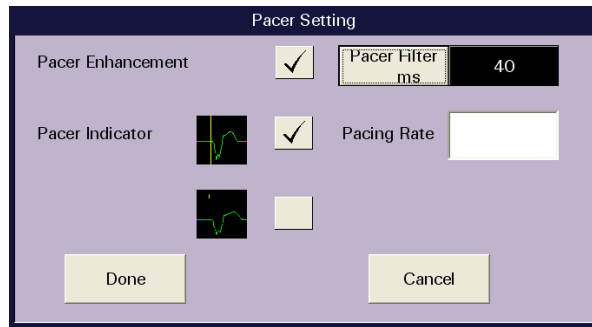
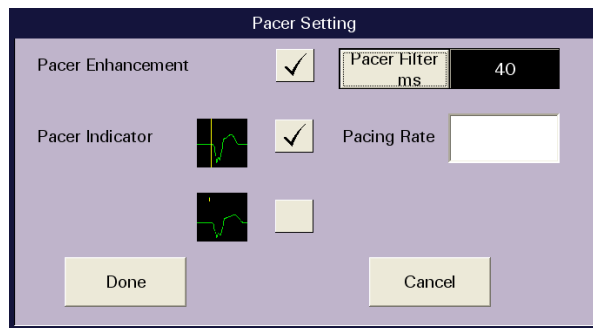

FIGURE 5-8 Pacer Setting Dialog Box
FIGURE 5-9 Pacer Setting Dialog Box (V 12/V 21 and Telepack only)
- **Pacer Enhancement** visually marks pacemaker-induced ECG complexes with a colored vertical spike. It can be enabled or disabled in the **Pacer Setting** dialog box (shown in FIGURE 5-8 and FIGURE 5-9).
- **Pacer Filtering** adjusts the time period during which pacemaker-induced ECG complexes are filtered for ECG sampling. The preset options for the Pacer Filter are 0 to 80 ms (in increments of 20). The Pacer Filter is selected in the **Pacer Setting** dialog box (shown in FIGURE 5-8 and FIGURE 5-9).
- **Pacing Rate** is available only when V 12/V 21 or Telepack device is connected. The range available is 40-100 bpm. The factory default setting is empty. The Pacing Rate is configured in **Pacer Setting** dialog box (shown in FIGURE 5-9).